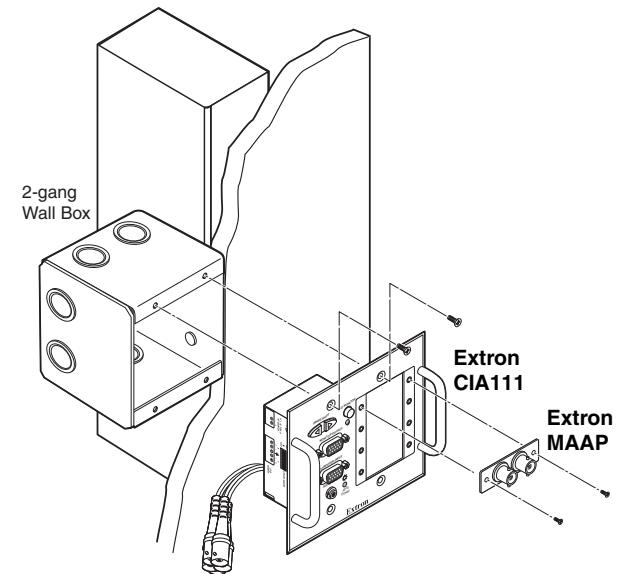

Figure 2-7 — Mounting the optional MAAP device (standard MAAP device shown)
1. Before any cables are attached to the front of an MAAP device, secure the MAAP to the faceplate with the provided 3/32" hex screws (figure 2-7).